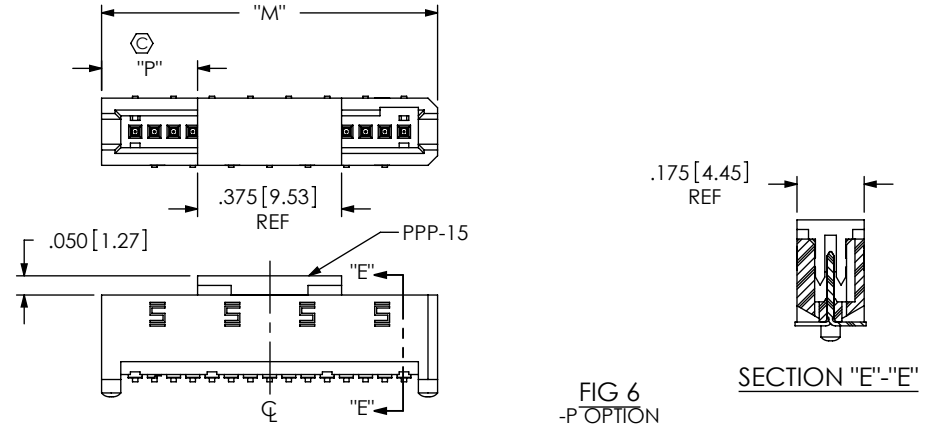

FIG 6
-P: PICK AND PLACE PAD (USE PPP-15) (SEE FIG 6, SHEET 2) (NOT AVAILABLE -03, -04 & -05 POSITIONS)